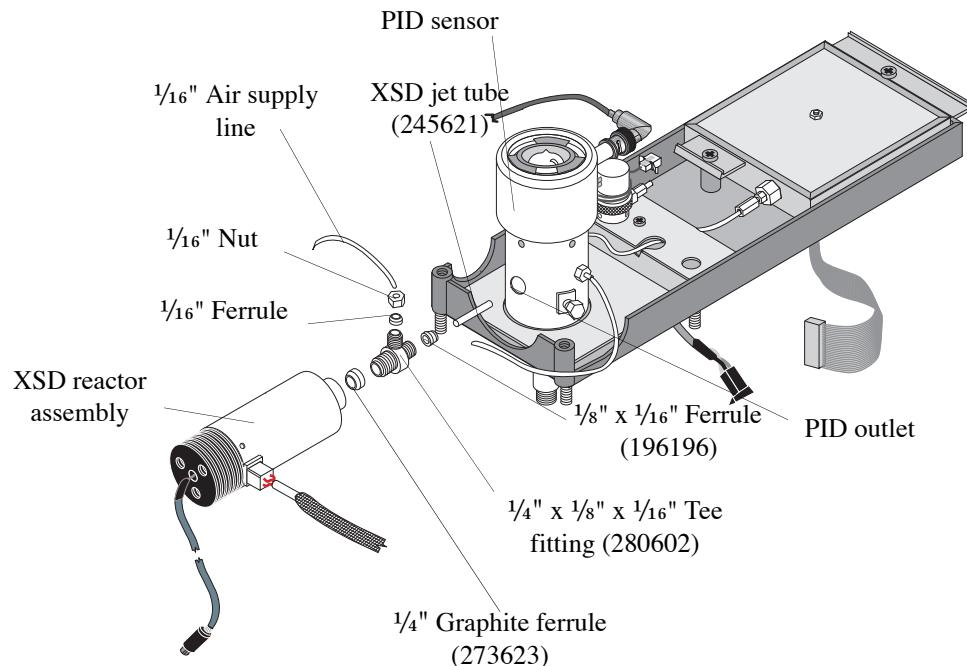

Figure 3.25. Model 5390 PID/XSD assembly
2. Slide a $\frac{1}{8}$ " x $\frac{1}{16}$ " I.D. ferrule (PN 216366) onto the XSD jet tube (PN 245621) (Figure 3.25)